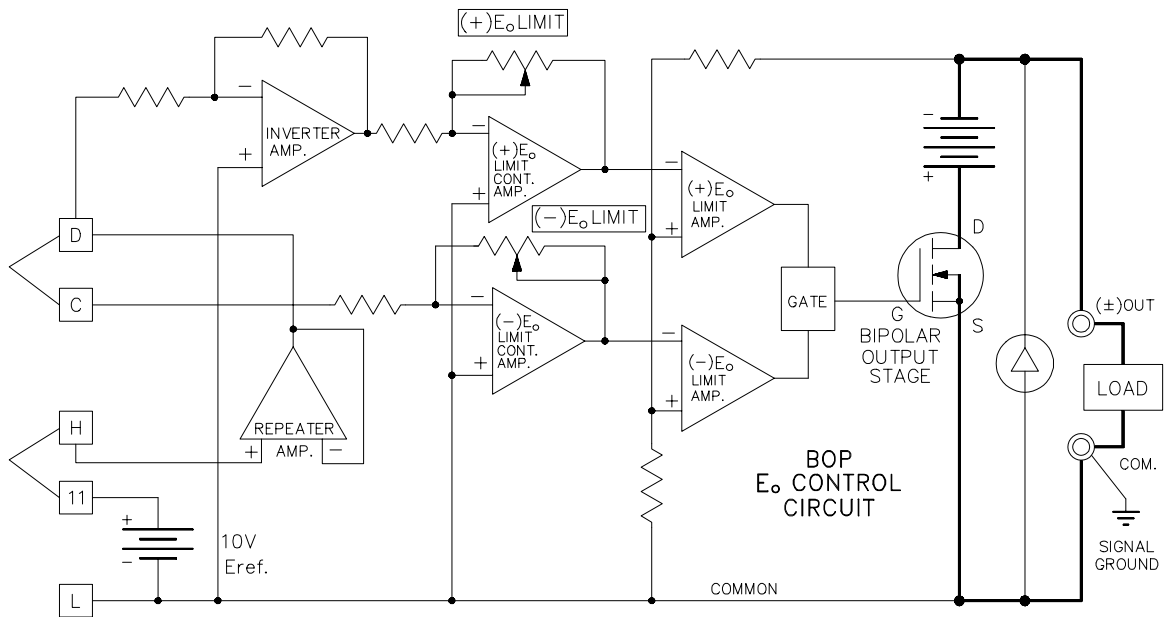

FIGURE 3-3. BOP (±) VOLTAGE LIMITING CIRCUIT
- 3) (\pm) E_o Limit Circuits (FIG 3-3)